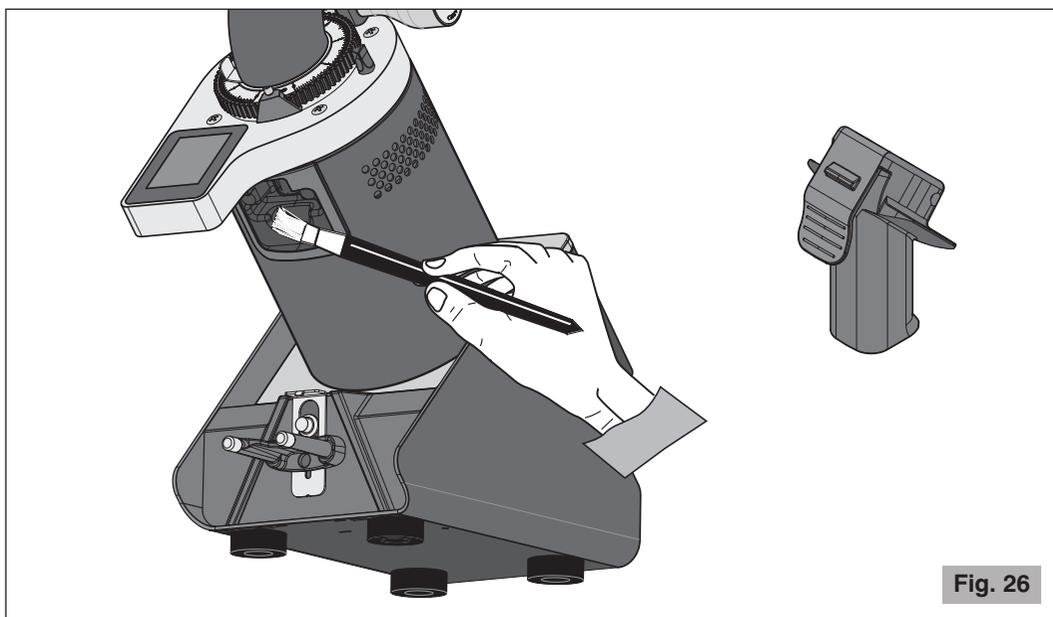

Fig. 26
- Use a brush or a paintbrush (Fig. 26) to clean the most hidden areas inside the unit and a dry cloth for the other surfaces.